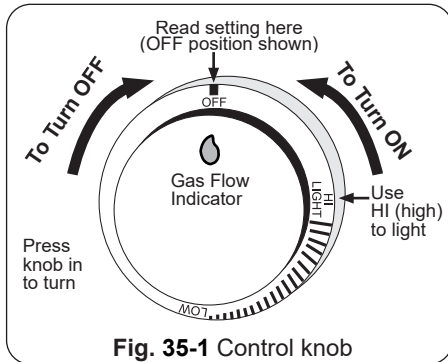

Fig. 35-1 Control knob
**For your convenience and safety, when the control knob is turned to the on position, the gas flow indicator will change from blue to red. (Red indicates gas flow.) See Fig. 35-1.**